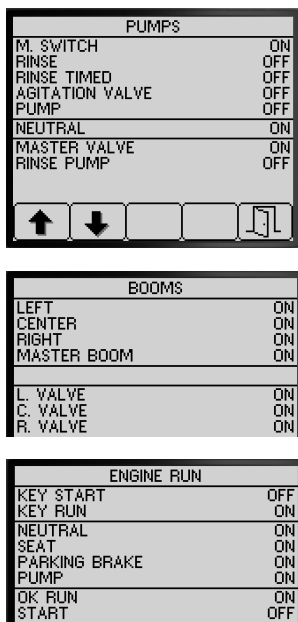

Figure 85
3. Use buttons 1 or 2 to navigate and review the state information for the inputs and outputs of the sprayer system (Figure 85).